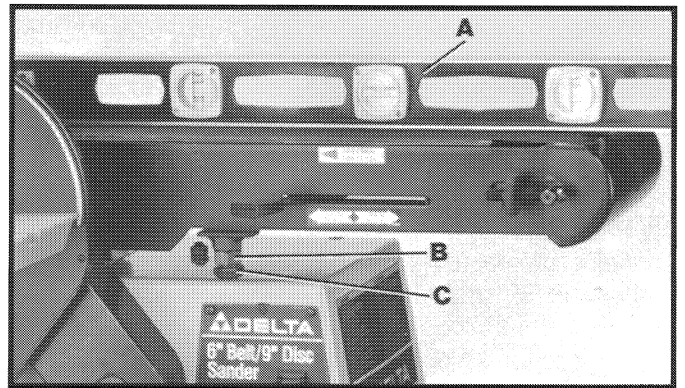

Fig. 24
3. Place a level (A) on the sanding belt and check to see if the arm is level, as shown in Fig. 24.
4. If an adjustment is necessary, loosen lock nut (B) Fig. 24, and turn sanding arm stop (C) in or out until the sanding arm is level. Then tighten lock nut (B).